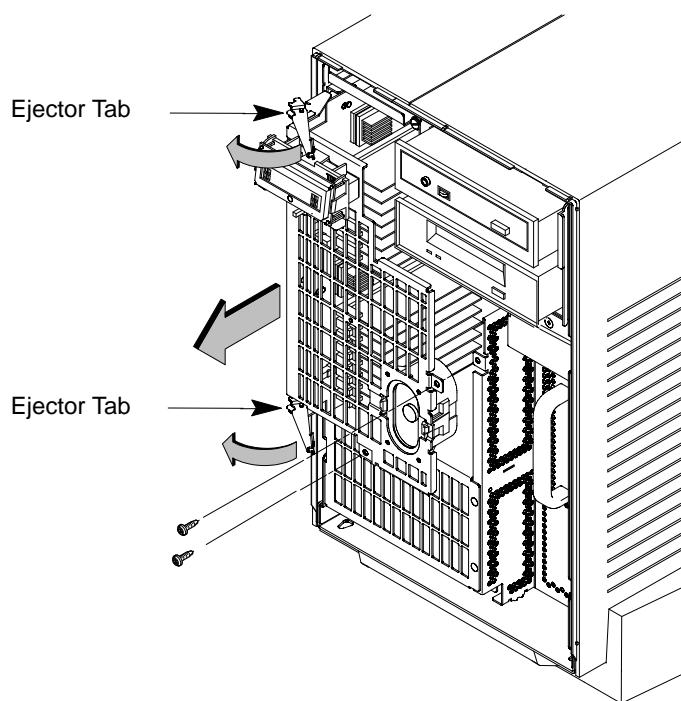

Figure A-25. Removing the CPU Assembly
- 3.** Release the ejector latches on the left side, top, and bottom of the CPU Assembly. Refer to Figure A-25.